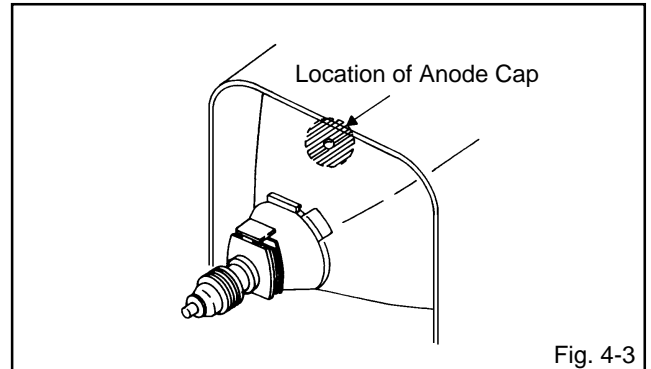

Fig. 4-3
1. Clean the spot where the cap was located with a small amount of alcohol. (Refer to Fig. 4-3.)